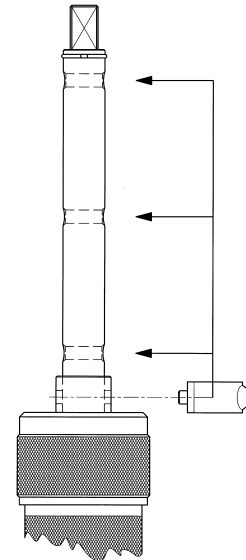

Figure 7
- For this type of branch connection, position the retention mechanism in the lowest of the three anchoring openings on the chuckshaft. See *Figure 7*.